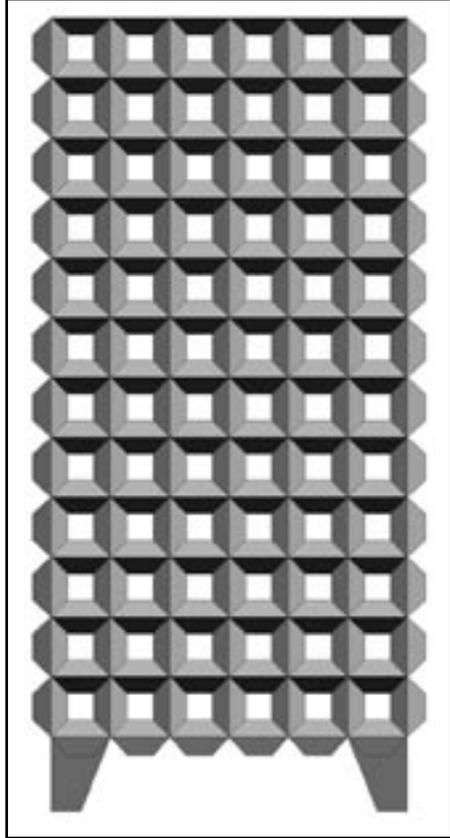

Figure 1. Proposed propagation cell design.
- The cell (Fig. 1) will be similar to the existing 3D air-root-pruning containers with a range of sizes from 2×2 cm to 5×5 cm, all to fit into 384-mm square. Cells to be deep, square in section, and with vertical walls (tapered pots are 2.5D). More than 20% of the wall